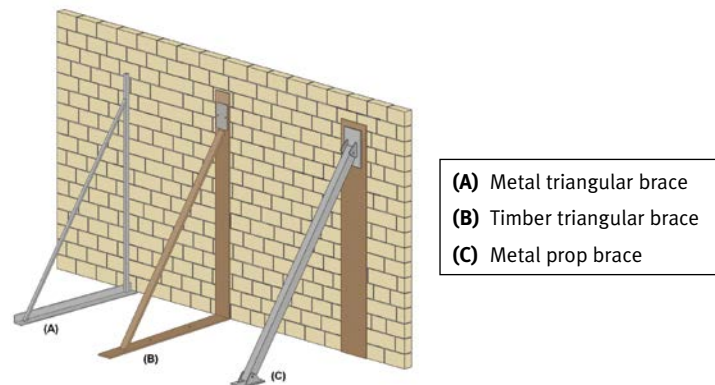

Figure 5: Examples of typical types of temporary supports (not to scale)
- installing temporary supports (see figure 5)
Note: If your risk assessment identifies temporary supports as a control measure, select an appropriate design for your wall that is of adequate strength and can be adequately fixed. You may need to prevent wall failure from either side. Typical examples are shown in figure 5.